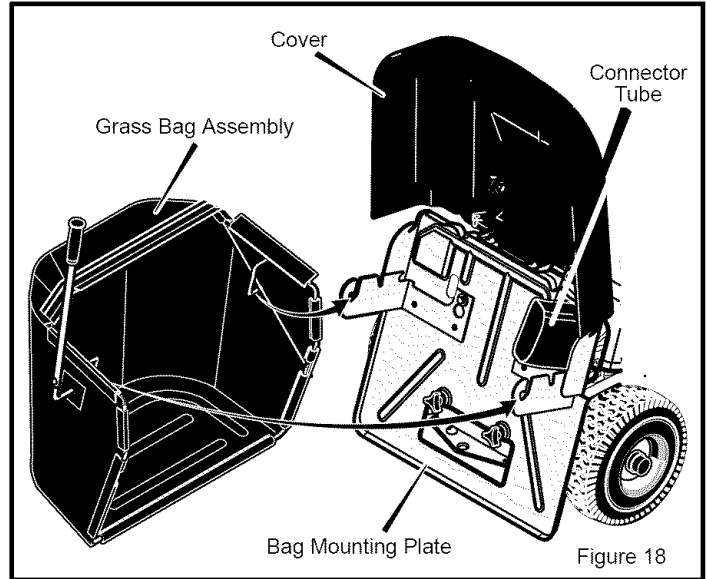

Figure 18
6. Lift the **cover** and remove the **grass bag assembly** (see Figure 18).
8. Pull the **connecting tube** back through the hole in the **bag mounting plate** (see Figure 18).